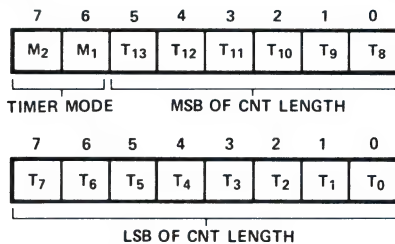

Figure 7. Timer Format
To program the timer, the COUNT LENGTH REG is loaded first, one byte at a time, by selecting the timer addresses. Bits 0-13 of the high order count register will specify the length of the next count and bits 14-15 of the high order register will specify the timer output mode (see Figure 7). The value loaded into the count length register can have any value from 2H through 3FFH in Bits 0-13.
*DATA BUS TIMING IS SHOWN IN FIGURE 7.